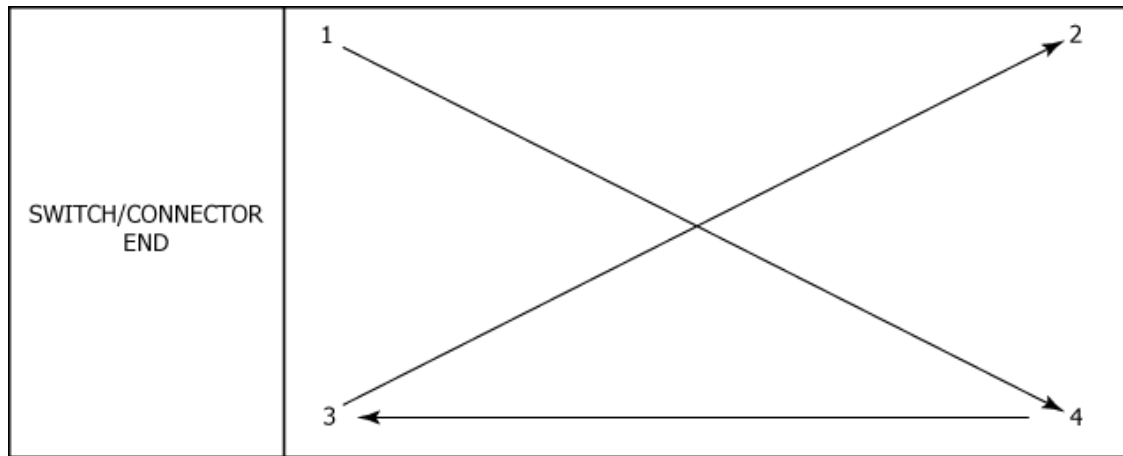

Figure 25 Battery Pack Screw Tightening Pattern
- 11) Tighten and torque the screws as shown in Figure 25. Torque to 6-8 lb-in (68-90 N•cm).